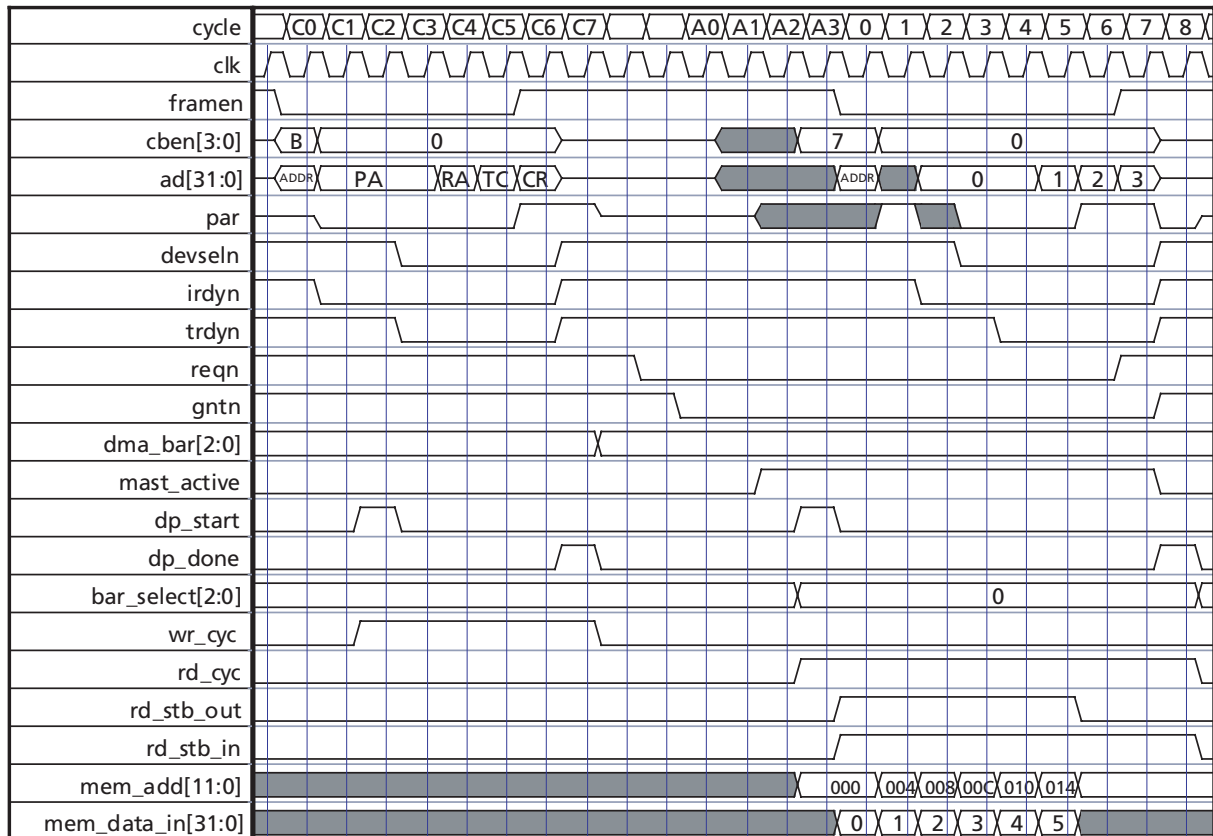

Figure 6-33 · DMA Burst Read Cycle Including DMA Start Sequence
Initially, a PCI Master writes to the four DMA control registers (cycles C0 to C7 in Figure 6-33). Three clock cycles after the control register (CR) is written, the core will assert its PCI request signal **REQN**. When the PCI arbiter grants the bus and the bus is idle, several clock cycles later the core will initiate a PCI cycle asserting the **MAST\_ACTIVE** output. See cycle A2 in Figure 6-33.